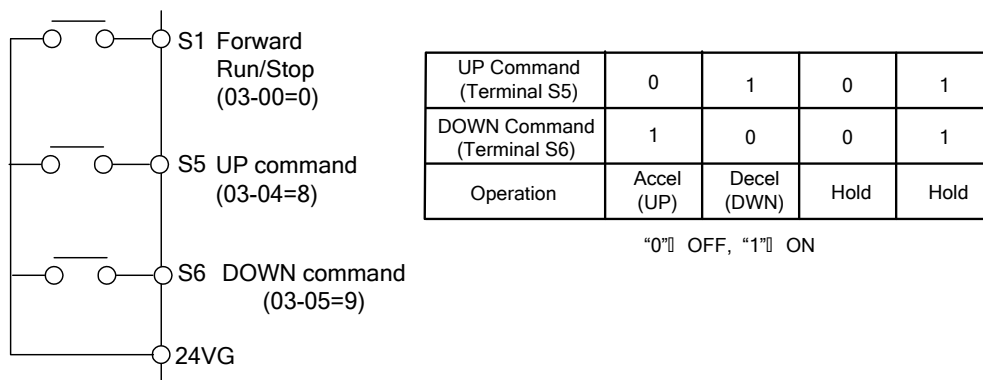
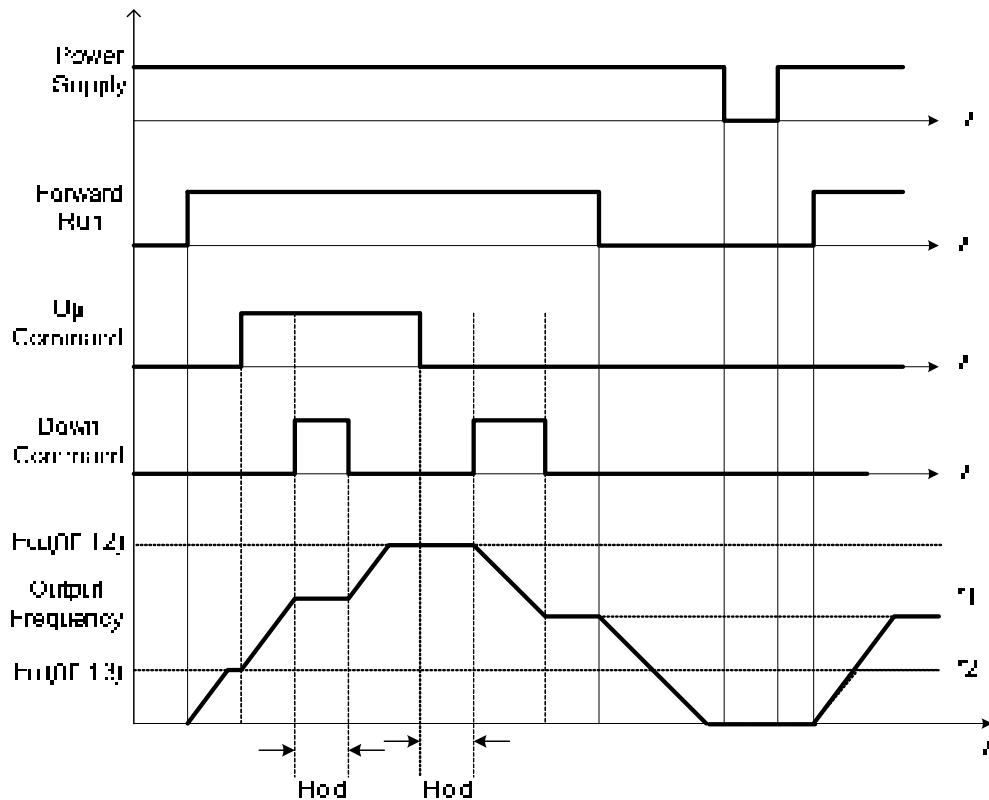

Figure 4.3.19 UP/DOW and operation example
Figure 4.3.20 Up / Down command timing diagram
(10) 03-0X =08 : UP frequency command
**(11) 03-0X =09 : Down frequency command**
- ①. When only the UP or DOWN command function is programmed to the digital inputs.
- ②. When both DOWN command and Inhibit Acceleration/deceleration command are activated simultaneously
- ③. When both UP command and Inhibit Acceleration/deceleration command are activated simultaneously.
- For the examples of UP/DOWN control wiring and operation, please refer to figure 4.3.19 and figure 4.3.20 .